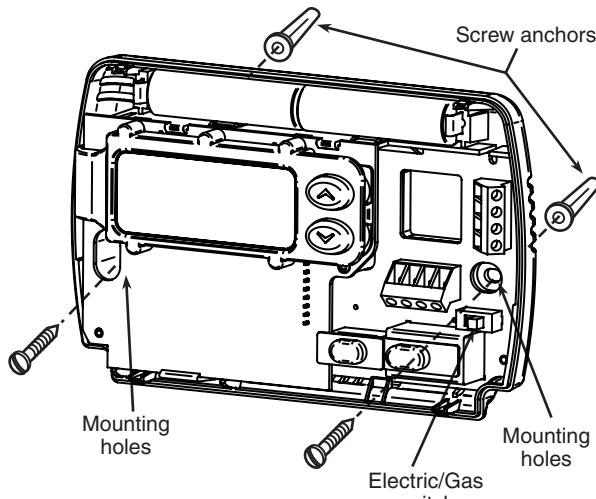

Figure 1. Thermostat Base
This thermostat is configured from the factory to operate a heat/cool, fossil fuel (gas, oil, etc.), forced air system. It is configured correctly for any system that DOES NOT require the thermostat to energize the fan on a call for heat. If your system is an electric heat or heat-pump system that REQUIRES the thermostat to turn on the fan on a call for heat, locate the **GAS/ELECTRIC switch** on the back of the thermostat (see fig. 1) and switch it to the **ELECTRIC** position. This will allow the thermostat to energize the fan immediately on a call for heat. If you are unsure if the heating/cooling system requires the thermostat to control the fan, contact a qualified heating and air conditioning service person.
5. Fasten base loosely to wall, as shown in fig. 1, using two mounting screws. Place a level against bottom of base, adjust until level, and then tighten screws. (Leveling is for appearance only and will not affect thermostat operation.) If you are using existing mounting holes, or if holes drilled are too large and do not allow you to tighten base snugly, use plastic screw anchors to secure subbase.
If "LO BATTERY" is displayed, the batteries are low and should be replaced. For best results, replace all batteries with new premium brand alkaline batteries such as Duracell® or Energizer®. To replace batteries, install the batteries along the top of the base (see Fig. 1). The batteries must be installed with the positive (+) end to the left.